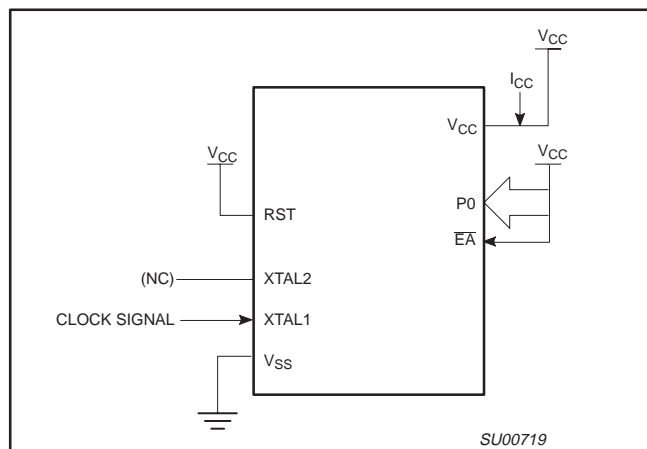

Figure 36. I_{CC} Test Condition, Active Mode
- See Figures 36 through 39 for I_{CC} test conditions and Figure 34 for I_{CC} vs. Frequency